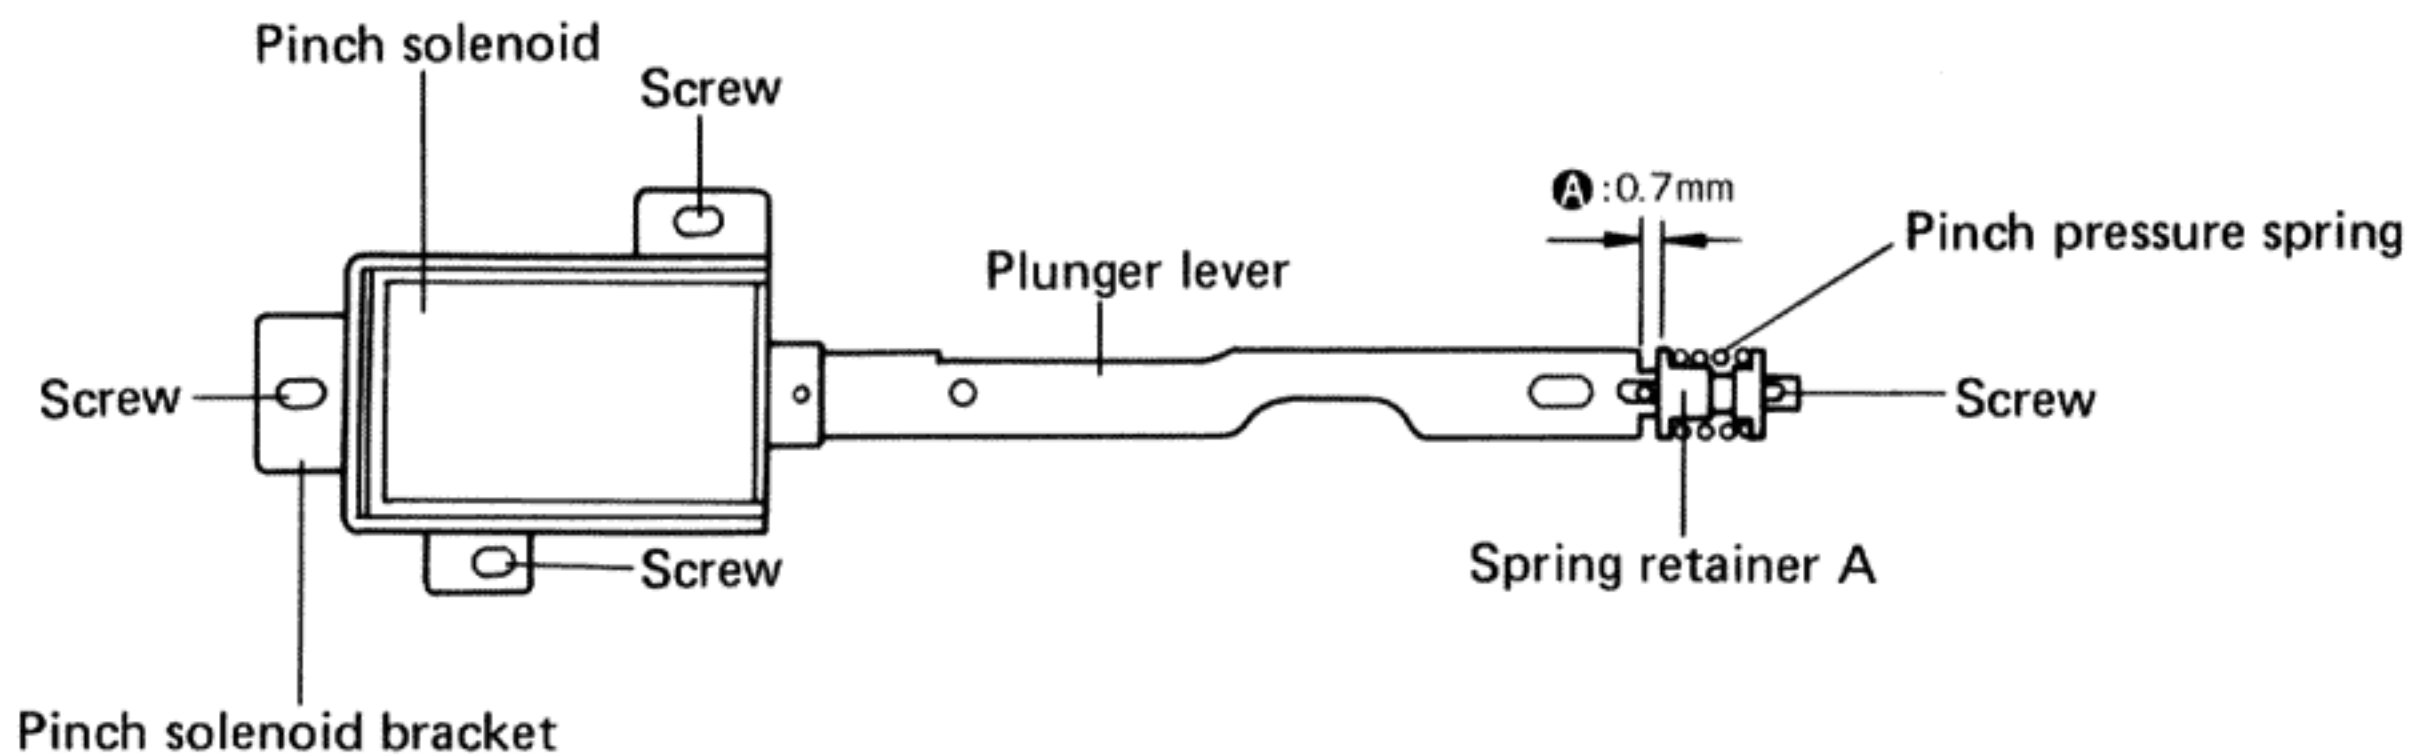

Fig. 27
1. Playback at a set tape speed of 19cm/s and confirm that **A** of the pinch pressure spring shown in Fig. 27 is within 0.7mm.